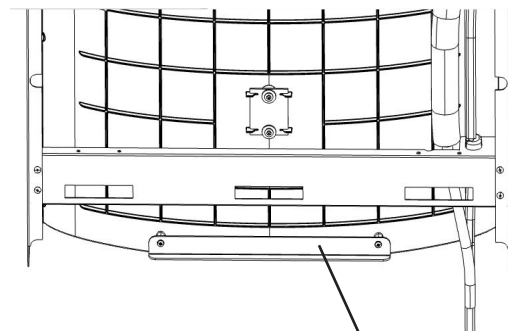

Fig. 8 BRACKET & SCREWS
- 6) Install gasket on bottom of bottle filler tower with gasket support bracket & (2) screws (See Fig. 8).